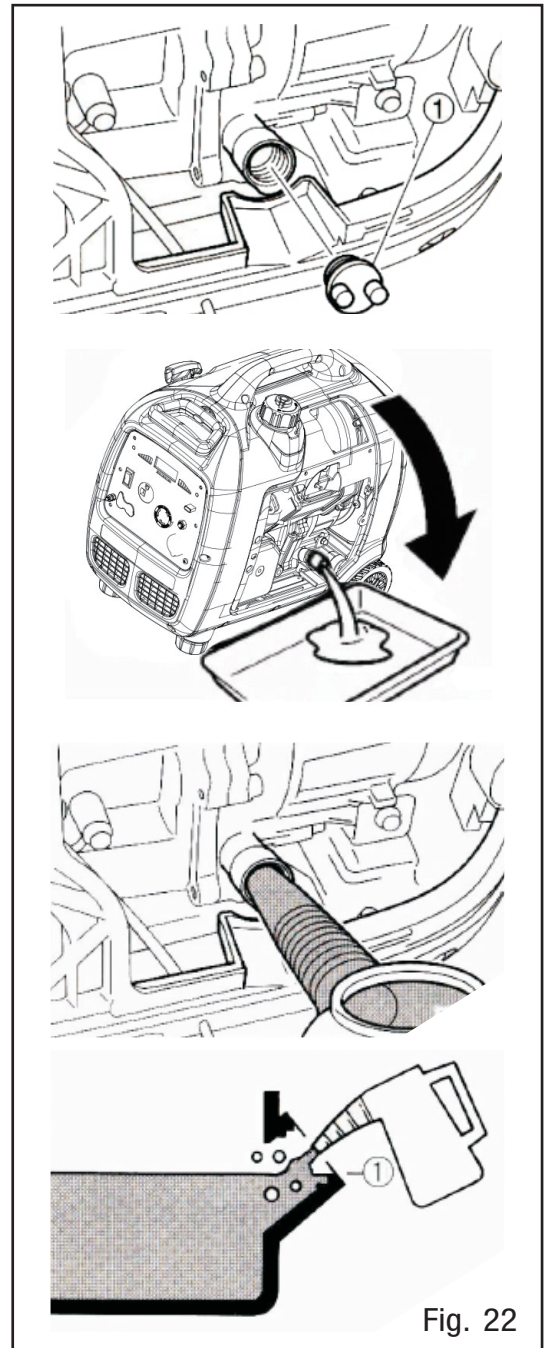

Fig. 22
2. Unscrew the two cover knobs, and remove the maintenance cover from the side panel (Fig. 22).